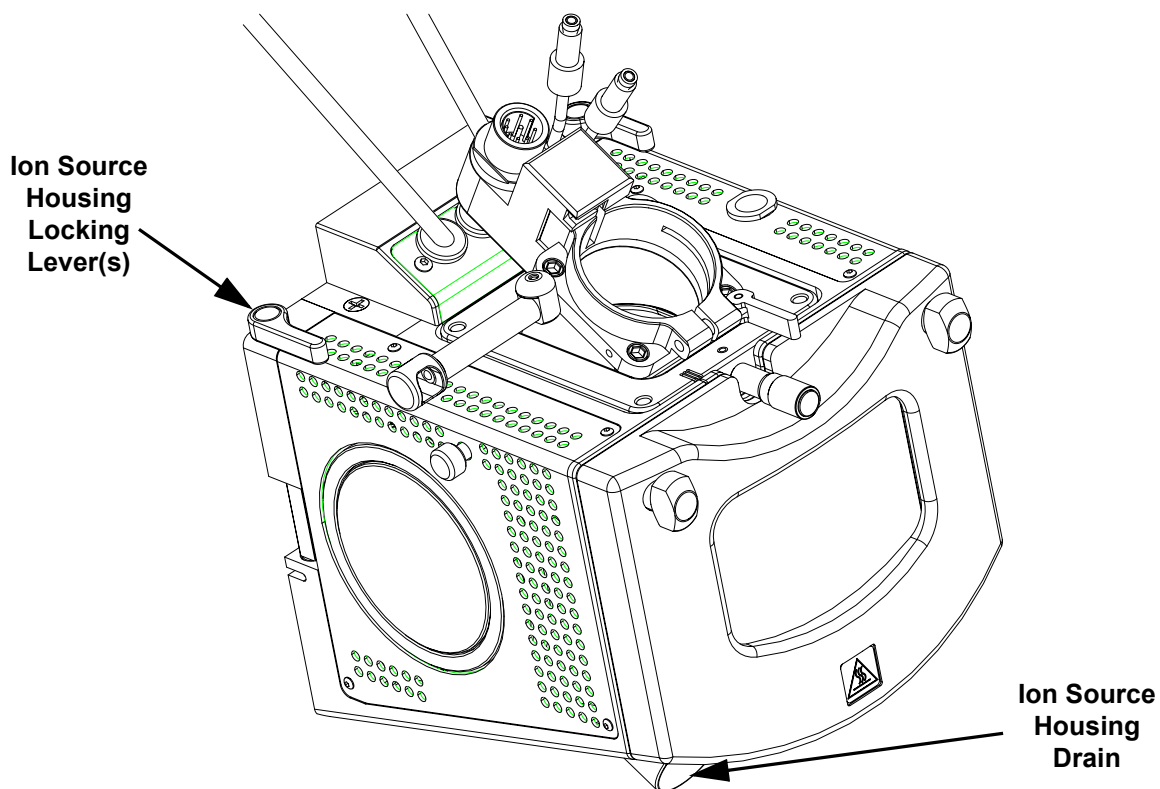

Figure 6-4. Ion Max ion source, detail of components
1. Remove the drain tube from the ion source housing drain. See Figure 6-4.